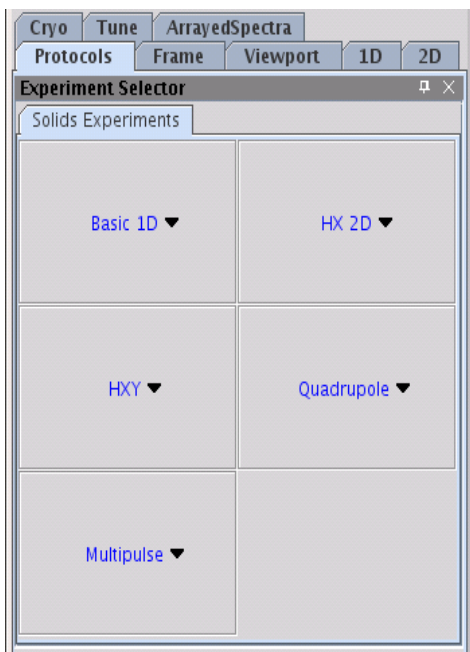
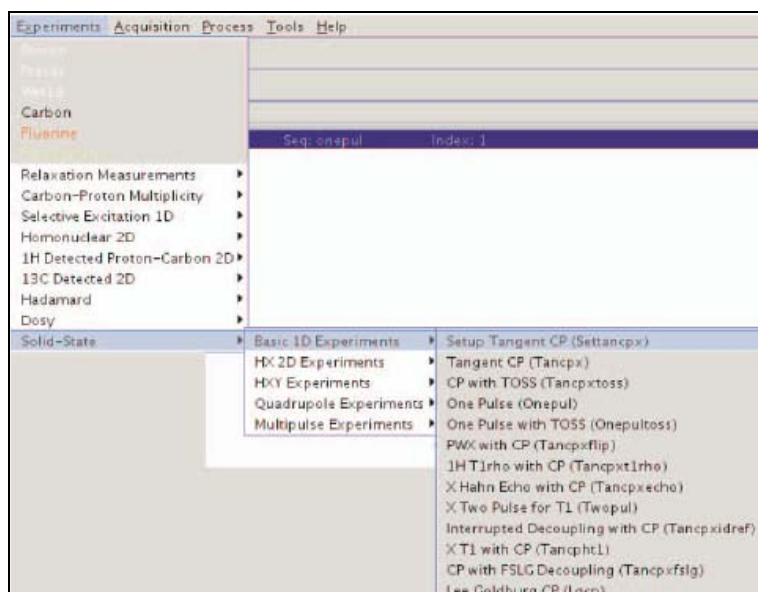

Figure 65 Solids Protocols Tabs
Figure 66 Solids Experiments and Menus
2. Load the protocol Settancpx either from the Experiment Selector (see Figure 65) or from the Experiments drop down menu (see Figure 66) to initialize a workspace for the solids experiments.
3. Select an experiment group, see Figure 66.
2. Click a **Protocol Type** type on the **Experiment Selector**, see Figure 65 .